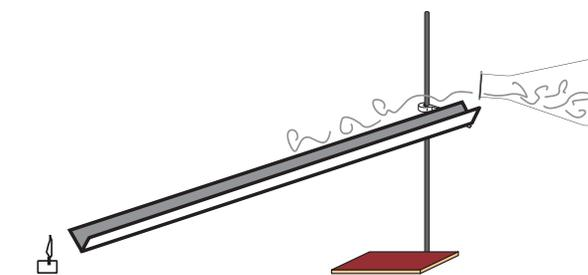

Figure 1.
2. Prepare a “vapor ramp” by elevating one end of the aluminum angle bracket using a ring stand and clamp. The ramp should be at a 20° angle or about 20 cm elevation (see Figure 1).
3. Place an unlit, tealight candle on the countertop directly below the lower end of the vapor ramp (see Figure 1).